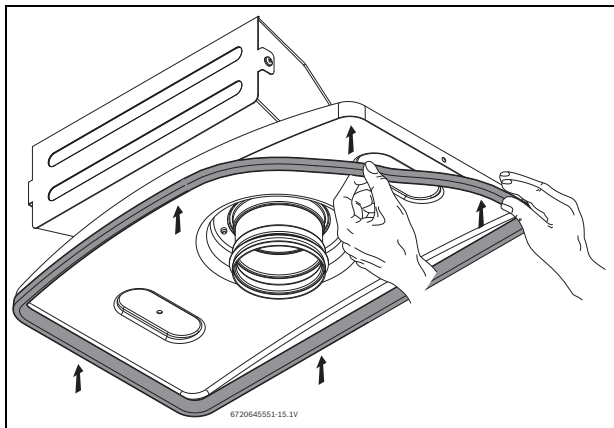

Fig. 9
- **3.** Attach the gasket provided with the kit as shown in Fig. 9.